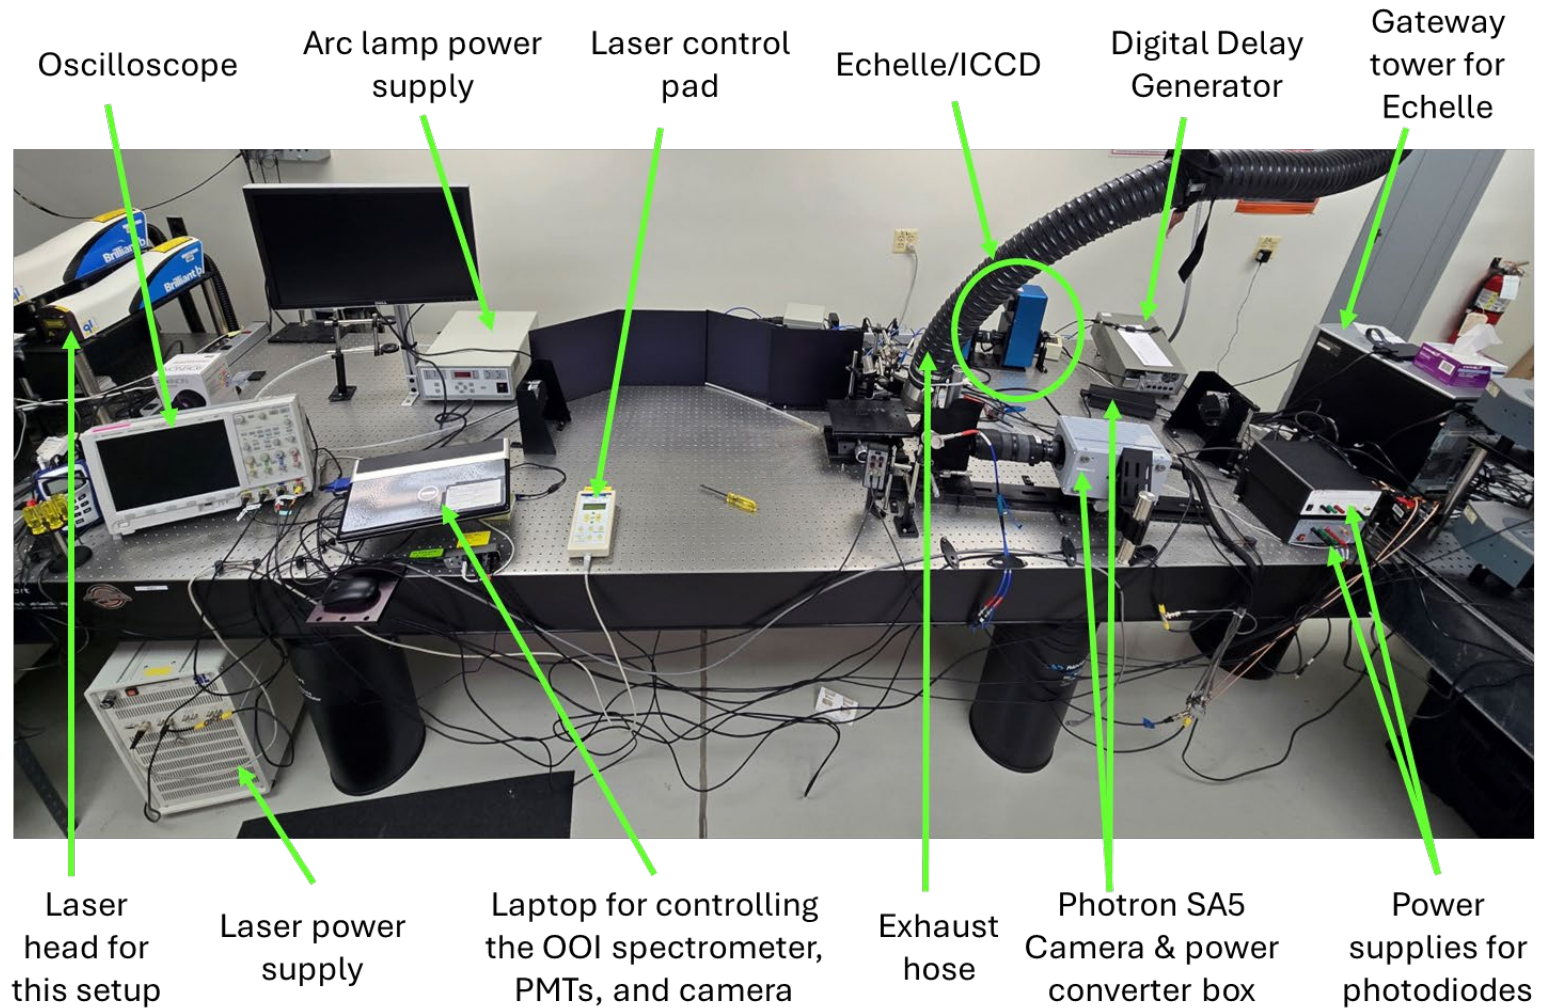

Figure 2. LASEM-420 setup with key diagnostics and hardware pointed out.
- Exhaust (see Figure 2)
- Dell Laptop (see Figure 2)
- DDG (see Figure 2)
- Oscilloscope (see Figure 2)